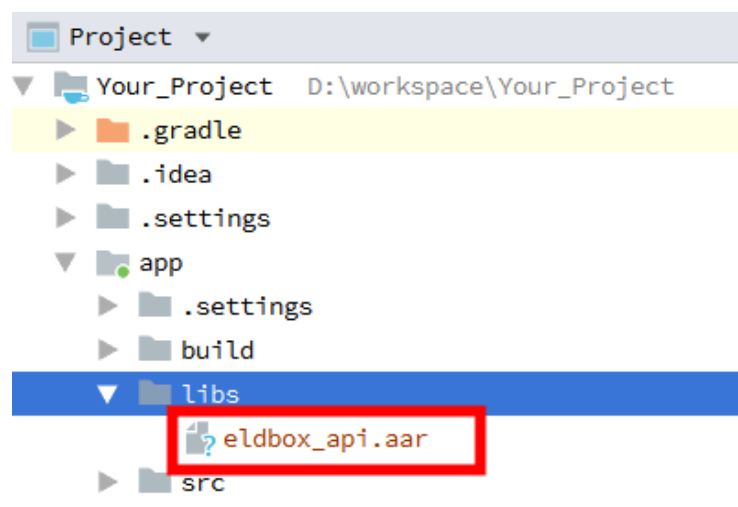

Figure 1
① Create a libs folder in the Your_project/app/ directory. If this folder already exists, please skip this step.
② Copy eldbox_api.aar to Your_project/app/libs, Sush as Figure 1: